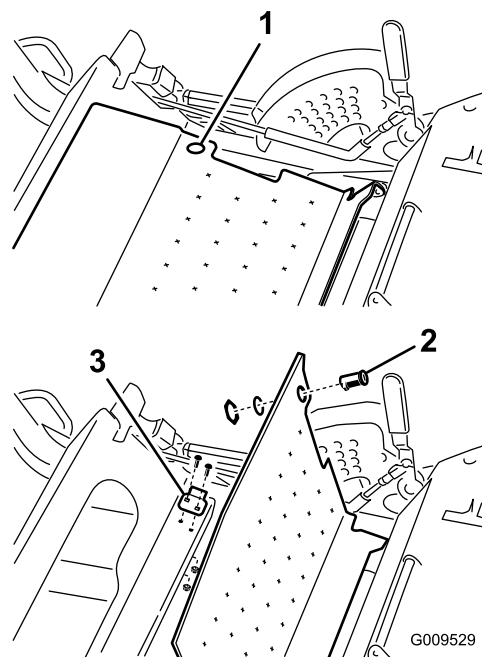

Figure 6
1. Raise the floor plate (Figure 6).
2. Install the latch bracket to the frame using two carriage bolts (1/4 x 3/4 inch) and two lock nuts (1/4 inch) (Figure 6).